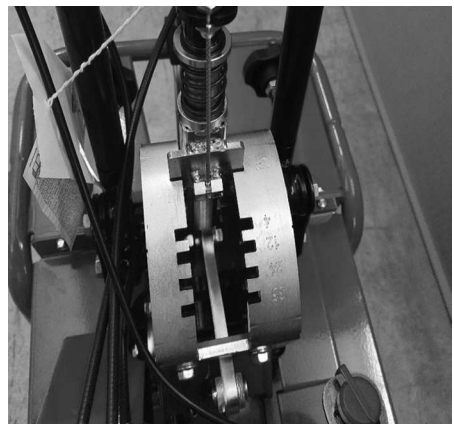

Figure 4
• At first the setting of a relatively high cutting height is recommended (Fig. 4), lowering it gradually according to working conditions.